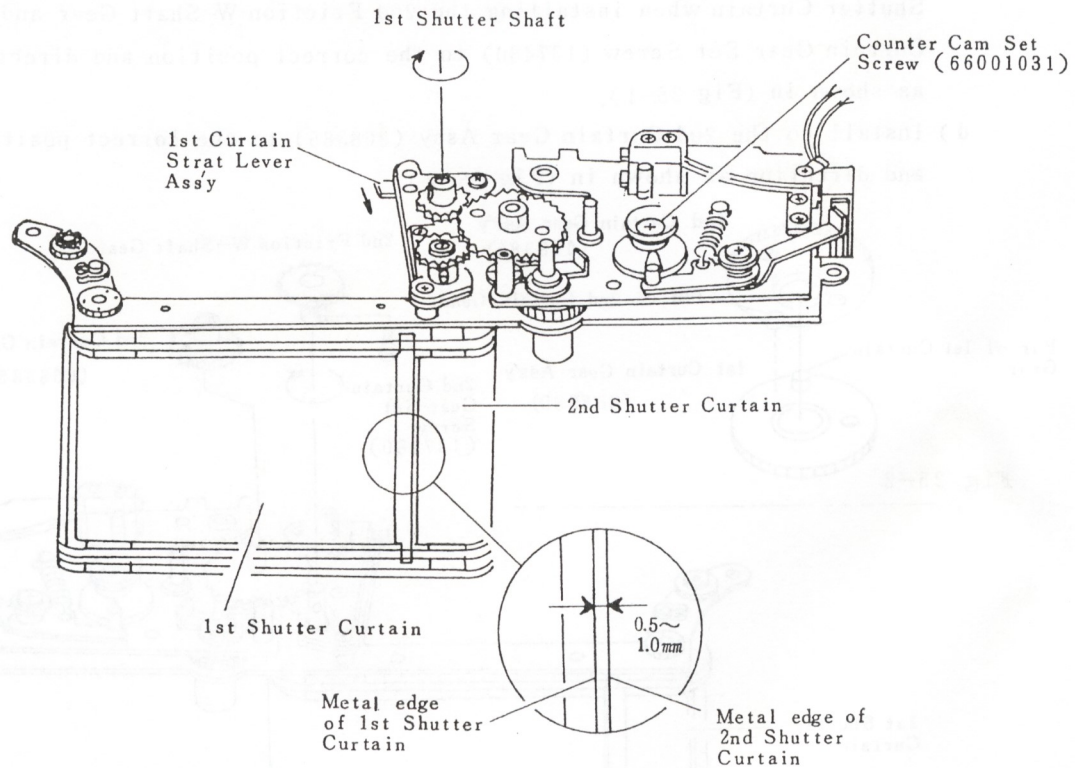
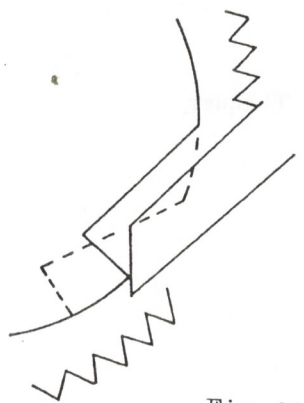

Fig 26
Fig 28
- The metal edge of the 1st Shutter Curtain Should overlaps with the 2nd Shutter Curtain as shown in (Fig 26).
- g) Release the Shutter Curtain by pushing the 1st Curtain Strat Lever Assy (Fig 26)
- (5) Adjust the position of 2nd Curtain Start Plate Ass'y to smoothly touch the 2nd Curtain Start Lever Ass'y (Fig 28)
- (6) Apply 18 volts to Magnet (two black lead wires) directly from a regulated D.C power supply.
- (7) Then release the 1st Shutter Curtain by pushig the 1st Curtain Strat Lever Ass'y (137393) (Fig 26) to ascertain that the Magnet will hold the 2nd Shutter Curtain.